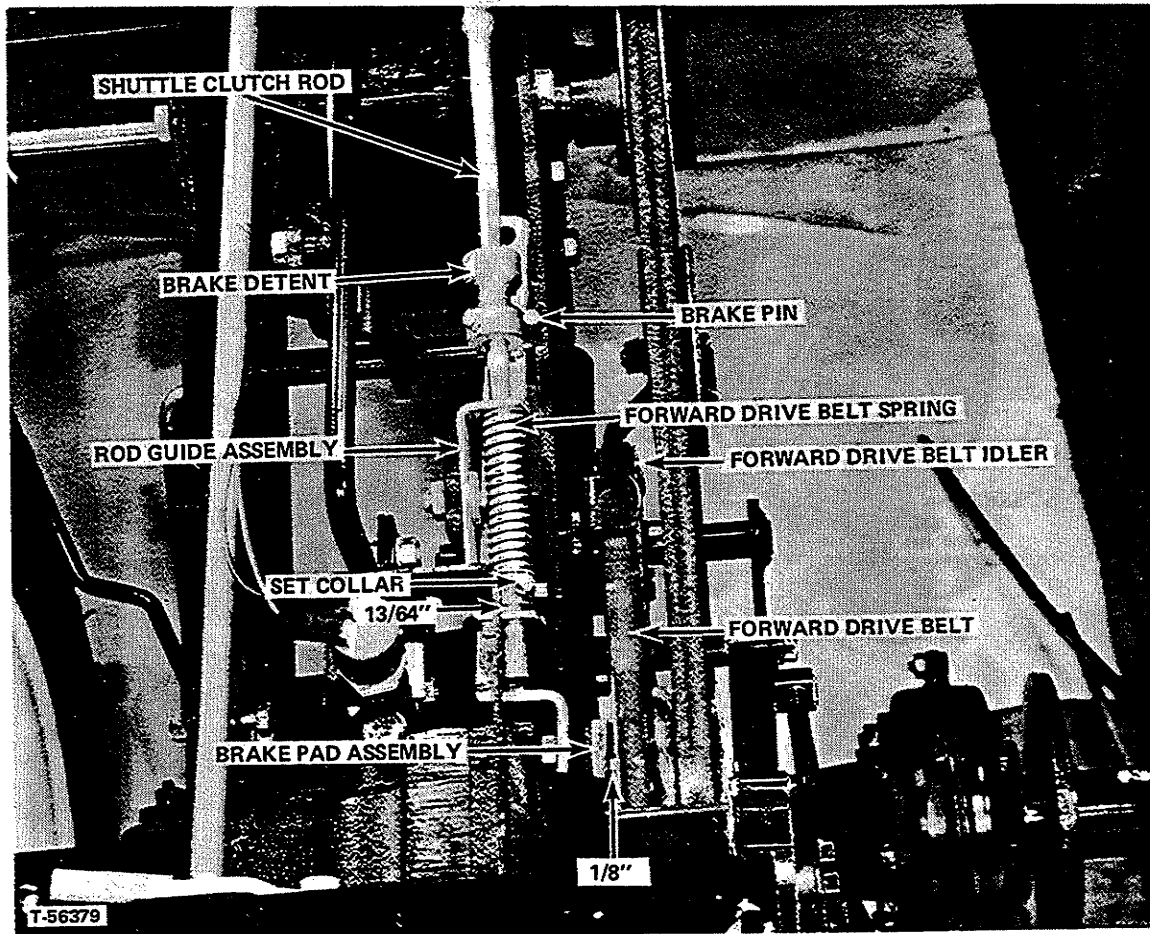

FIGURE 26
8. With control lever in full reverse position adjust brake pad assembly, (Figure 26), to have 1/8 inch clearance between pad and surface of pulley.
9. With control lever in neutral position loosen set-screw in set collar behind forward drive belt spring (Figure 26). Move rod guide assembly and spring forward until slack is taken out of forward drive belt. Tighten setscrew. Move control lever to the full forward position. There should now be 13/64 inch clearance between rear surface of set collar and rear leg of rod guide assembly (Figure 26). If necessary reset set collar to obtain the 13/64 inch dimension when control lever is fully forward.